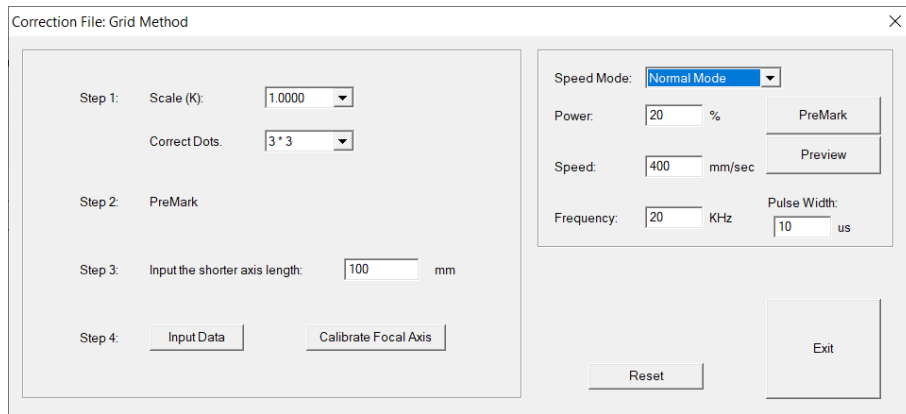

Fig. 1.1.50
- Step 1** Select a Scale(K) value which is close to the voltage ratio of lens and driver. Then select correct rings from the list. The difference of the Scale value(K) will cause different size of working area of step 2, the smaller the K, the smaller the correcting range. When starting to calibrate, choose a smaller scale(K) value. If the center line of the figure is shorter than the size of the working area, increase the scale(K) value before marking. This step may need to be performed many times until the shortest center line of the marking figure is slightly larger than the working range of the lens. Then select the correct dots. More correct dots will get more accurate result.
- Step 4** Click the “Input Data” button for next step, see Fig.1.1.50.